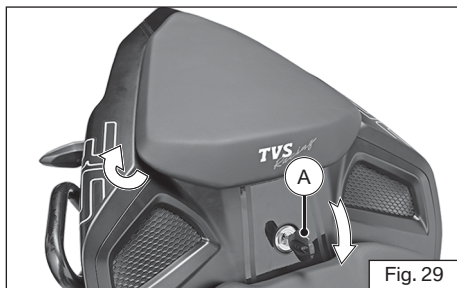

Fig. 29
This motorcycle is equipped with a lockable rider and pillion seats. The seat lock (A) is located between the rider and pillion seat as shown (ref. Fig. 29)